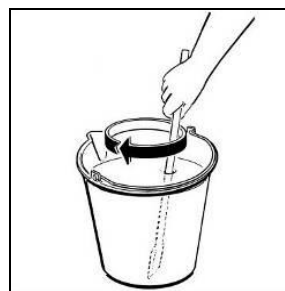

Fig. 16
- Dilute and mix the product in a separate container according to the manufacturer's instructions (see fig.16); never pour dry powder, crystals, or concentrate into a dry bowl.